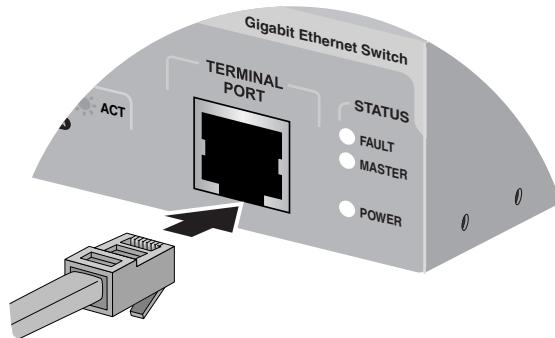

Figure 1. Connecting the Management Cable to the RJ-45 Serial Terminal Port
1. To manage a stand-alone AT-9400 Switch, connect one end of the RJ-45 to RS-232 management cable included with the switch to the Terminal Port on the unit's front panel, as shown in Figure 1.